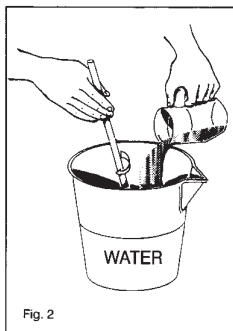

Fig. 2
1. Mix product in a separate container (FIG. 2).